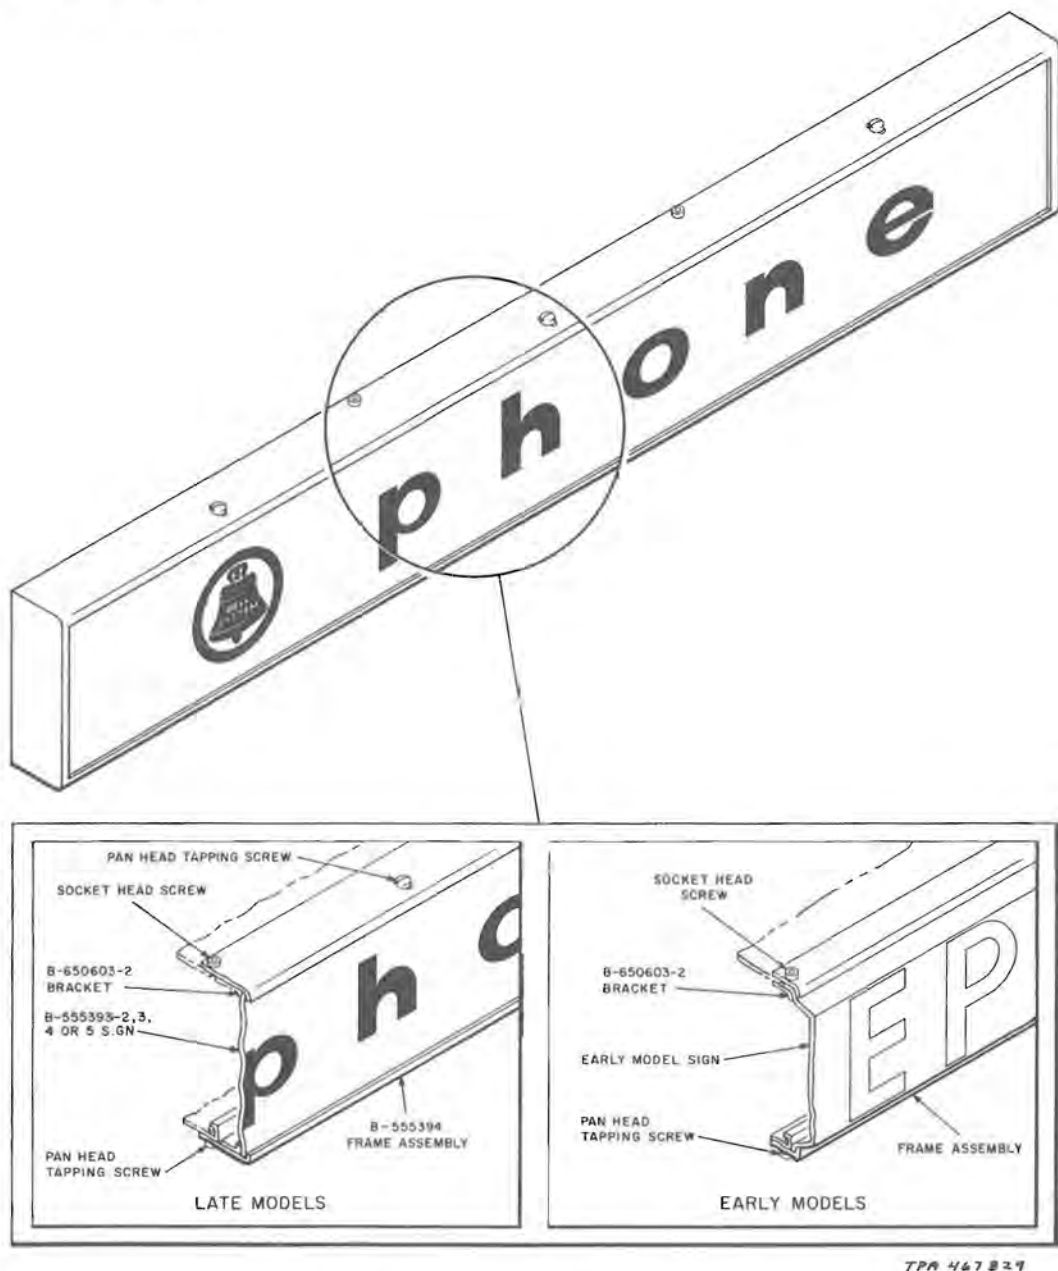

Fig. 9—KS-19206, List 9, 14, 15, or 16 Sign Assembly
- 4.14 Remove the sign assembly or sign blank (Fig. 9) as follows: